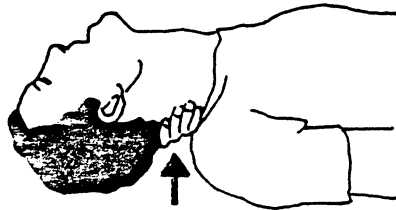

Figure 4.
- c. Remove your mouth to let the victim breathe-out, and check that the victim's chest moves down. See Figure 4.